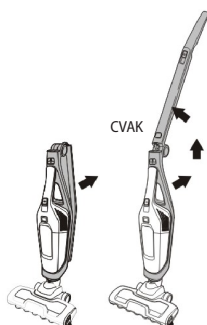

Fig. 1
1. If the handle is folded, unfold it until it clicks into place (Fig. 1).